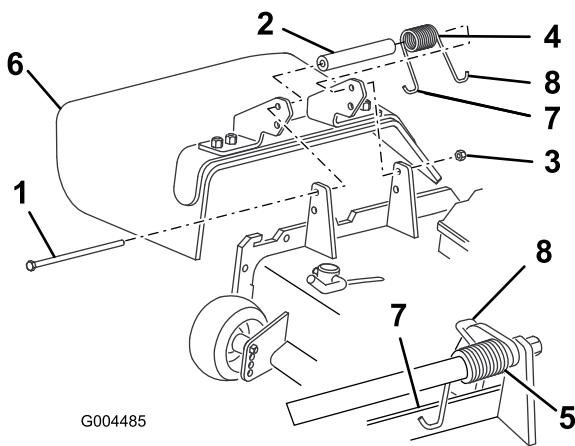

Figure 76
2. Remove the locknut, bolt, spring and spacer holding the deflector to the pivot brackets (Figure 76).
3. Place the spacer and spring between the replacement grass deflector brackets (Figure 76).
Note: Make sure the left J-hook end of the spring is installed behind the deck edge before installing the bolt as shown in Figure 76.
Note: Place the right J-hook end of the spring around the grass deflector (Figure 76).